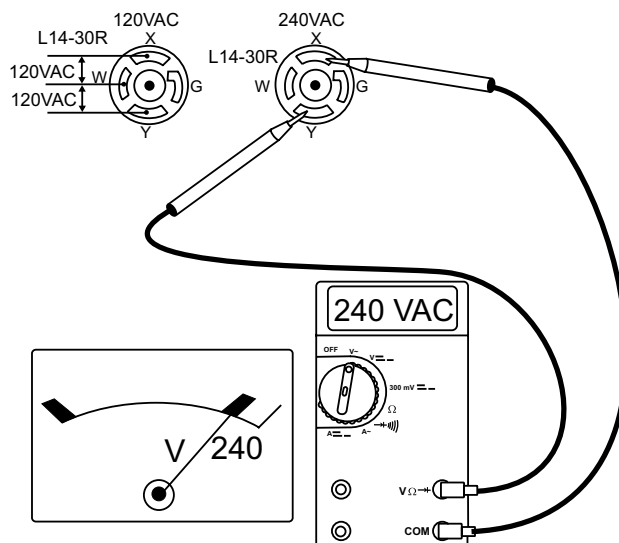

Figure 25. 120/240V L14-30R Receptacle
14. Read voltmeter on front panel of generator (Figure 25) and verify that 240 VAC is displayed. Using an external voltmeter as shown in Figure 25, verify that 240 VAC is present at the 120/240V, L14-30R twist-lock receptacle.